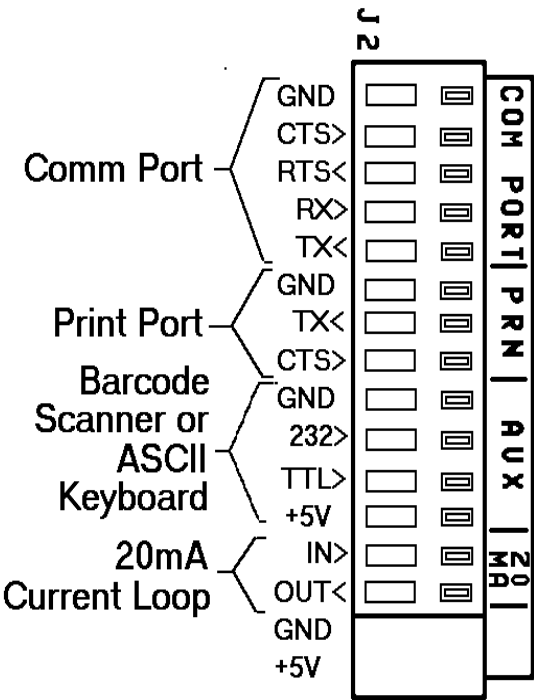

Figure 22 RS232 Ports (J2)
6. The RS-232 ports and their functions are imprinted on the main PC board. Refer to Figure 22, Table 11 and Table 12 to